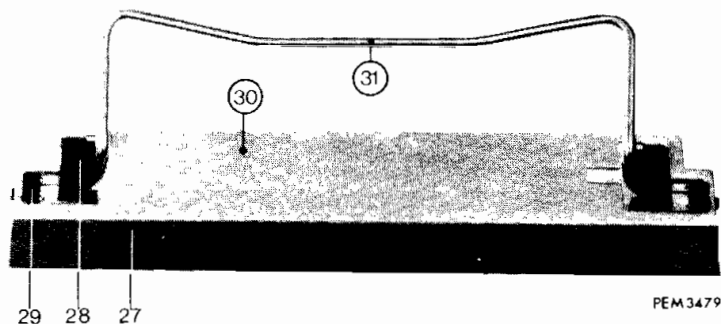

Fig. 11. Tilting assembly
- Move the small outer nylon slides 29 (Fig. 11).